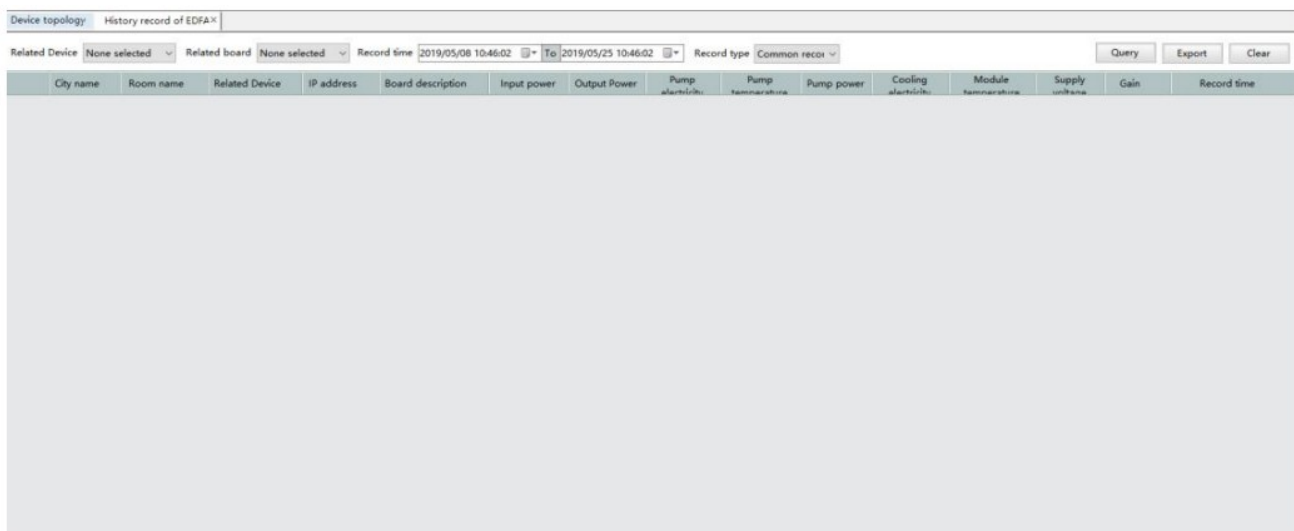

Fig.7.2 Operation record
2. Record time: Choose the start date and end date of the pre-query and click the "Query" button, then all history record of selected time period will be displayed(see Fig.7.2).